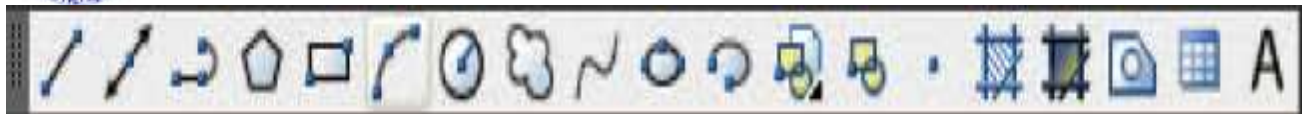

Fig. 3.3 The tool icons in the Draw toolbar
2. With a click on the tool's name in a toolbar. Figure 3.3 shows the **Draw** toolbar. Placing the cursor on the **Polygon** tool icon in this toolbar shows the same tooltip as that shown in Fig. 3.2 ;